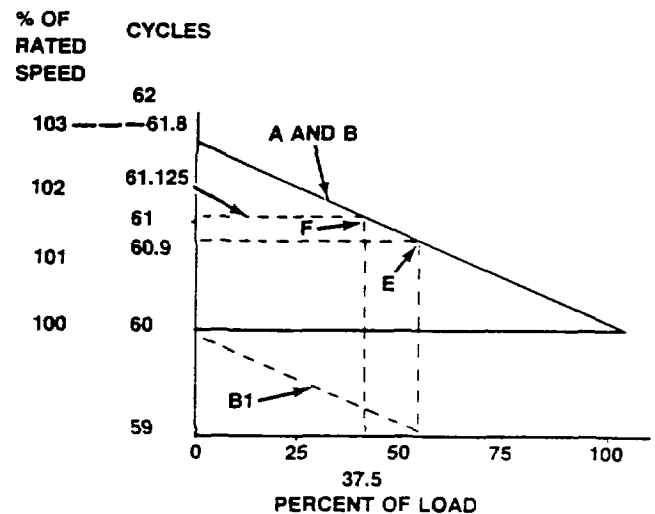

Figure 1 - Paralleling two units with similar speed droop characteristics.
The governor speed droop characteristics of these two units are similar. This is shown by lines "A" and "B" coinciding in Figure 1. If both units are started, set for high idle speed and paralleled at no load, the system frequency will be 61.8 cycles or 103% of rated frequency. As load is applied to the system, the frequency will decrease along the speed droop characteristic until the frequency at full load is 60 cycles.
37.5% of the capacity of either unit. Again, using Figure 1 for the governor characteristic of the 100 KW unit